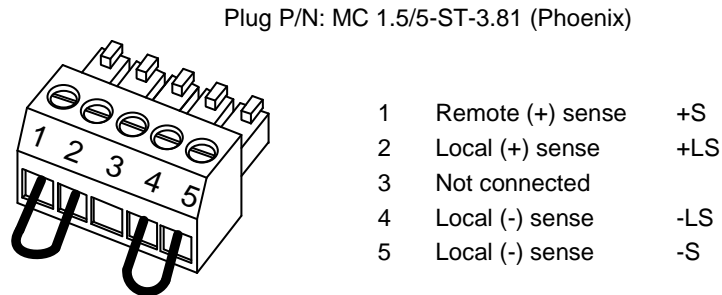

Fig.2-3: Sense connector default connection
- Sense connector: Configured to Local Sense as shown in Fig.2-3: